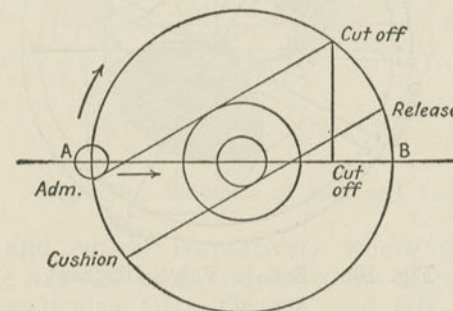

Fig. 167. Sweet Valve Diagram.
A. Referring to Fig. 167, the diameter *AB* of the large circle represents the valve travel; that of the small central one the exhaust lap, and of the larger central one the steam lap, that of the small one at the end of the diameter the lineal lead. Then tangents to the lead and steam-lap circles will cut the valve travel circle at a point corre-